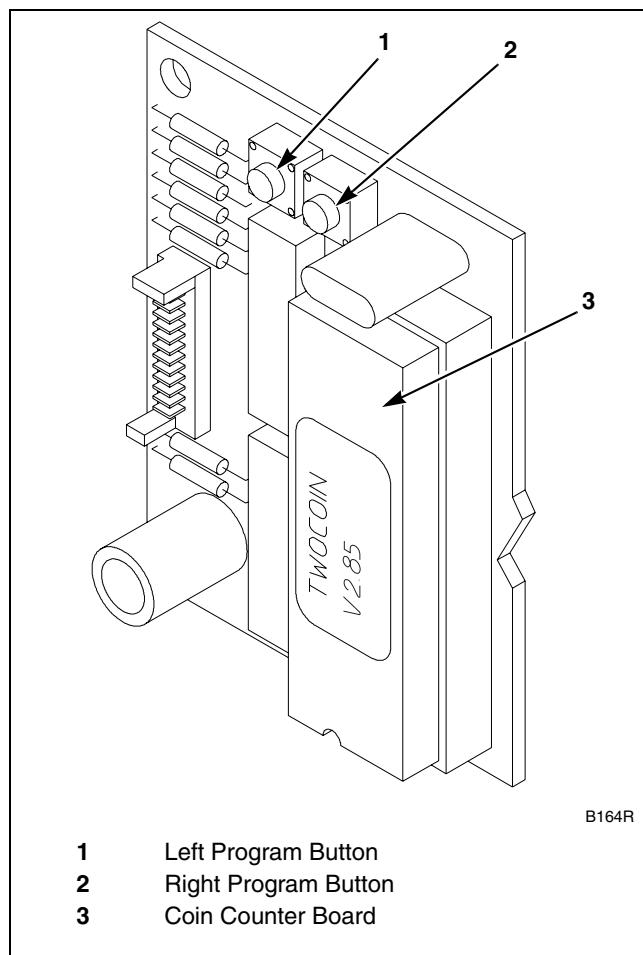

Figure 17
Verify the software version to be a single-coin acceptor or a dual-coin acceptor by checking the label on the coin counter board located in the control module behind the coin meter face. Refer to *Figure 17*. For single-coin acceptors, the software version identification code is "ONECOIN V2.62"; for dual-coin acceptors, the code is "TWOCCOIN V2.85".
1. Locate the two buttons above and to the left of the microprocessor. Refer to *Figure 17*.